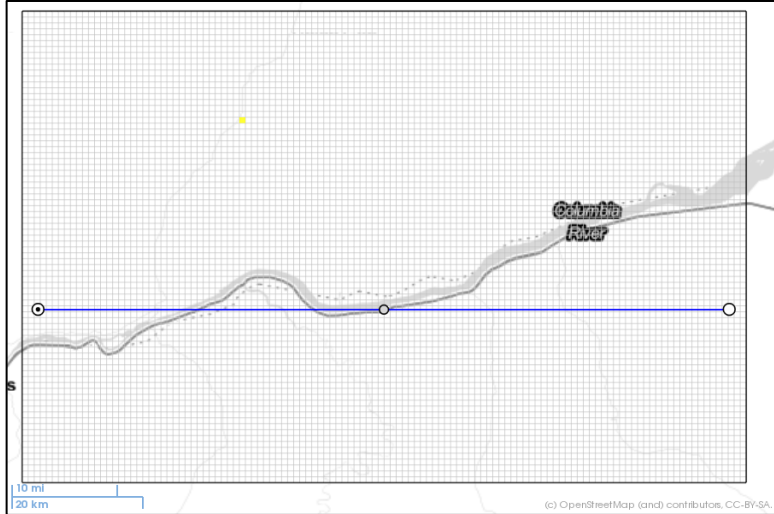

Figure 13. A polyline shown on the map viewer
- Right-click on the Map Viewer and then select Add Polyline from the popup menu. A polyline will be added to the map (Figure 13). The polyline is centered on the clicked location and stretched to east and west bounds of the current view. The polyline is associated with the current model layer and has three types of vertices that are differentiated by their sizes and color. You may modify the geometry of a polyline by dragging its vertices.